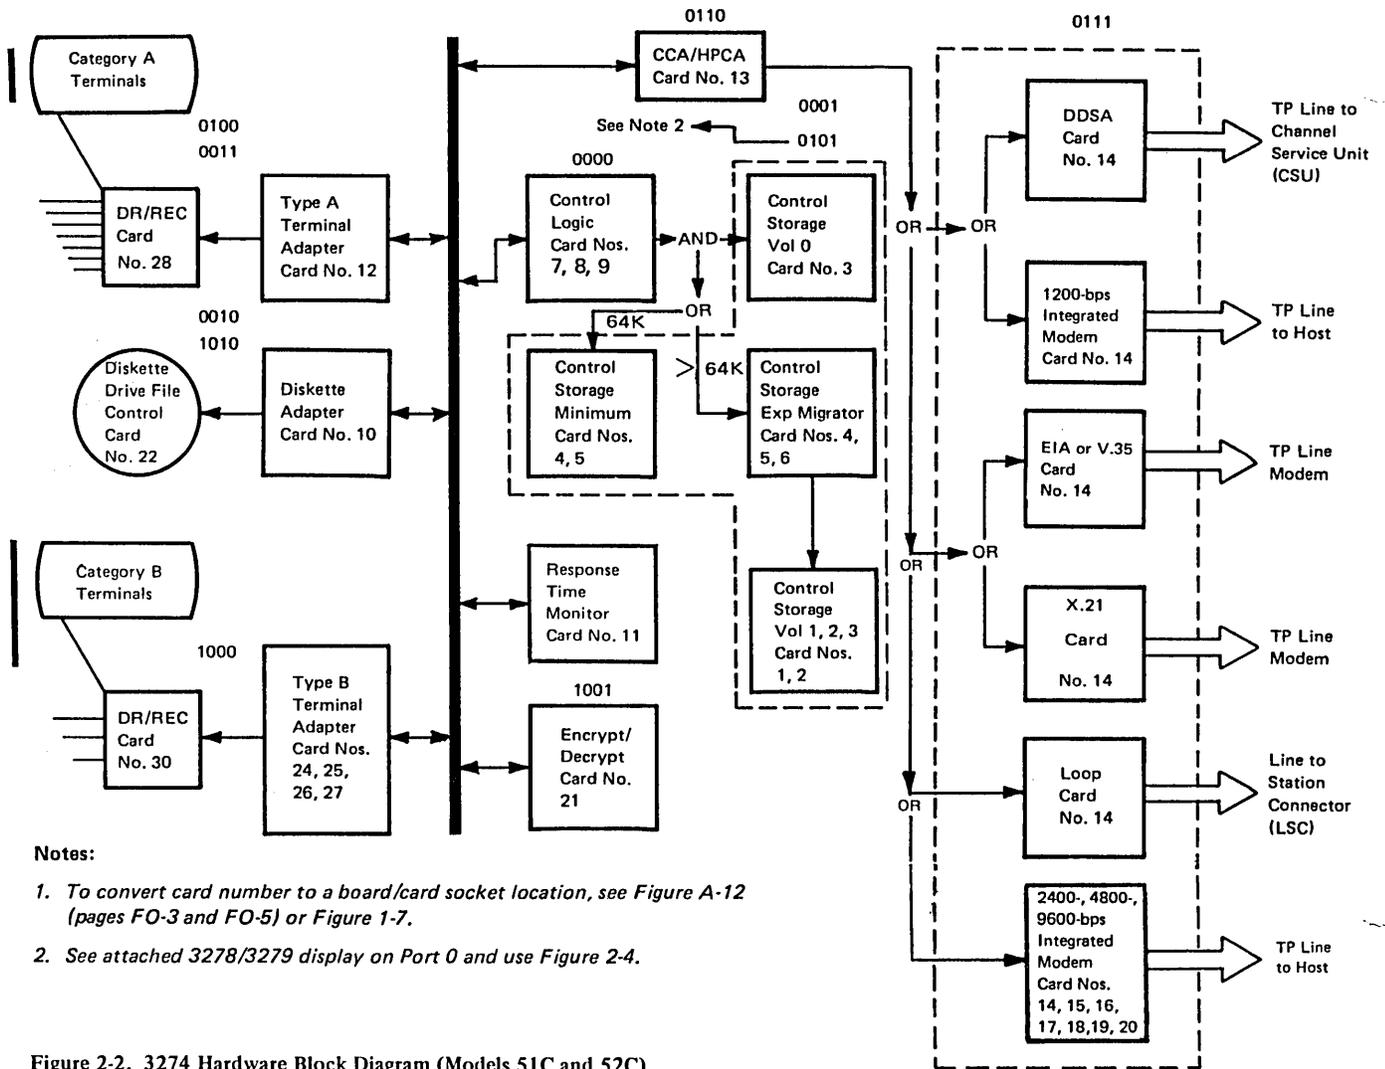

Figure 2-2. 3274 Hardware Block Diagram (Models 51C and 52C)
- Figure 2-2 can be used to determine the failing area. Also, see item d.